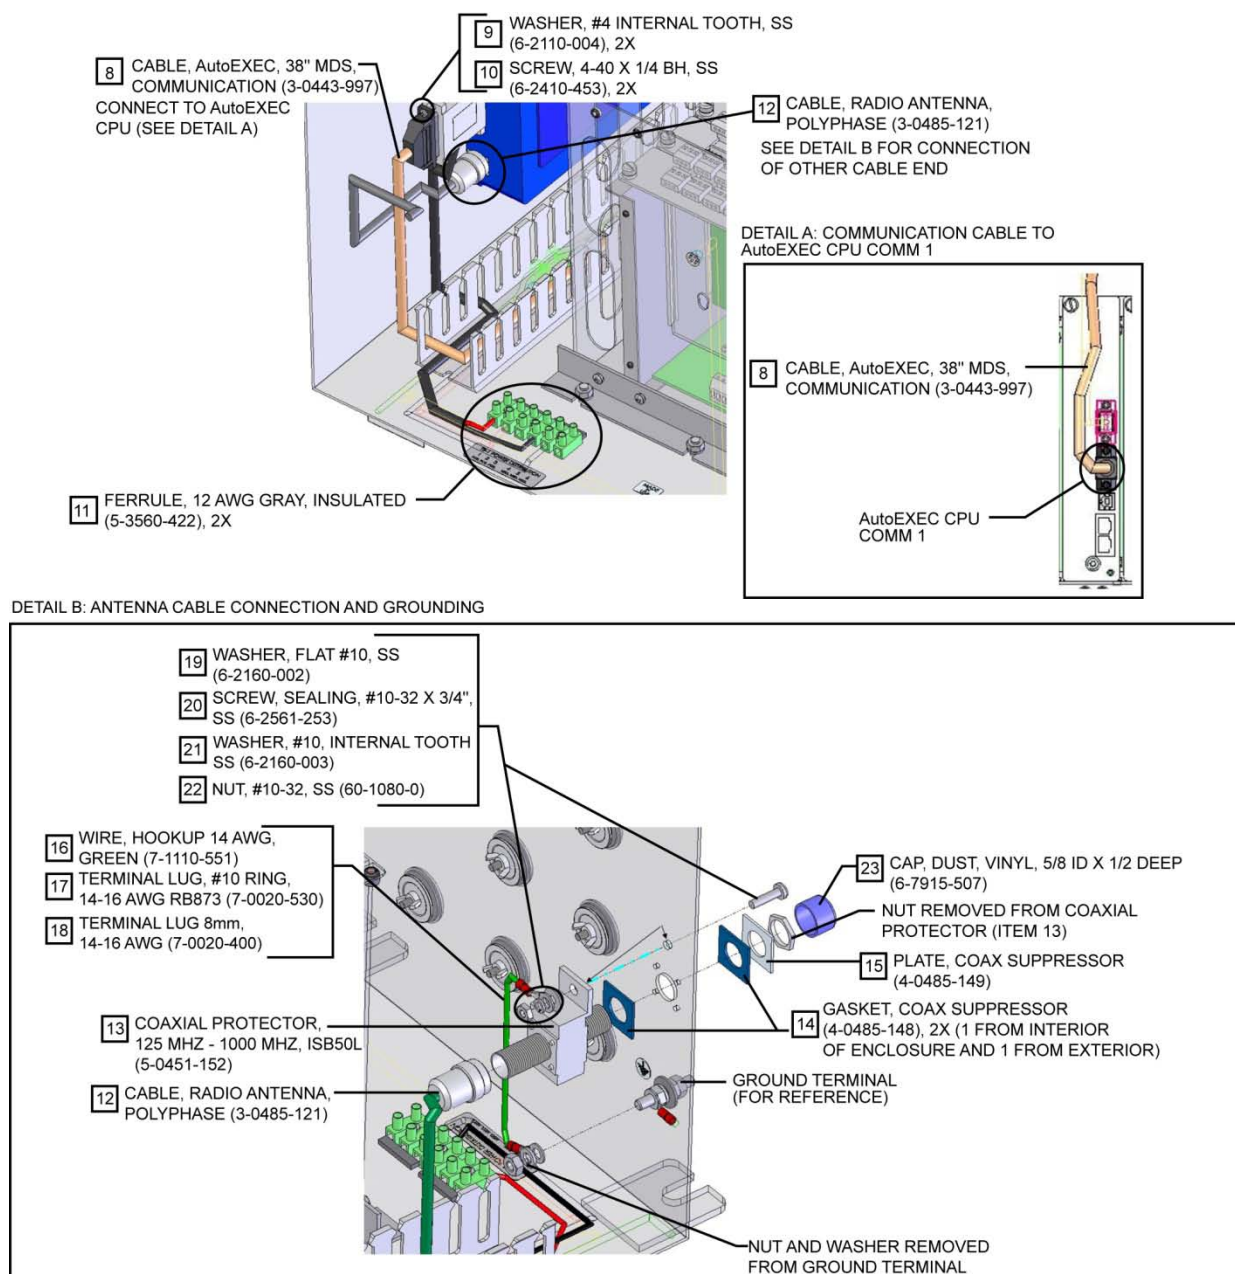

Figure 4-18. Radio connections
4. Reference Figure 4-18 for the following steps.
- a. Connect the communication cable (item 8):
- Using the washers and screws (items 9 and 10), connect the cable (item 8) to the radio's DB25 connector.
- Crimp the other ends of the red and black wires with the ferrules (item 11).
- c. Connect one end of the radio antenna cable (item 12) to the radio.
- d. To connect the other end of the antenna cable (item 12):